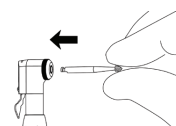

Fig 4
1. Swing the Latch Plate to open the chuck. Fig 4